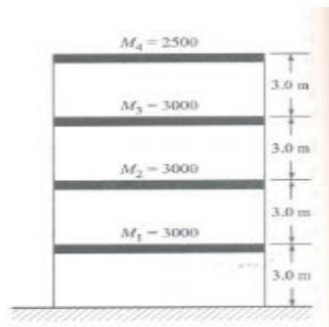

Figure.3
5. A four-storey reinforced concrete frame building as shown in Figure.3 is situated at Roorkee. The height between the floors is 3 m and total height of building is 12 m. The dead load and live load is lumped at respective floor. The soil below the foundation is assumed to be hard rock. Assume building is intended to be used as a hospital. Determine the total base shear as per IS1893 (PART1): 2002. Distribute the base shear along the height of the building.